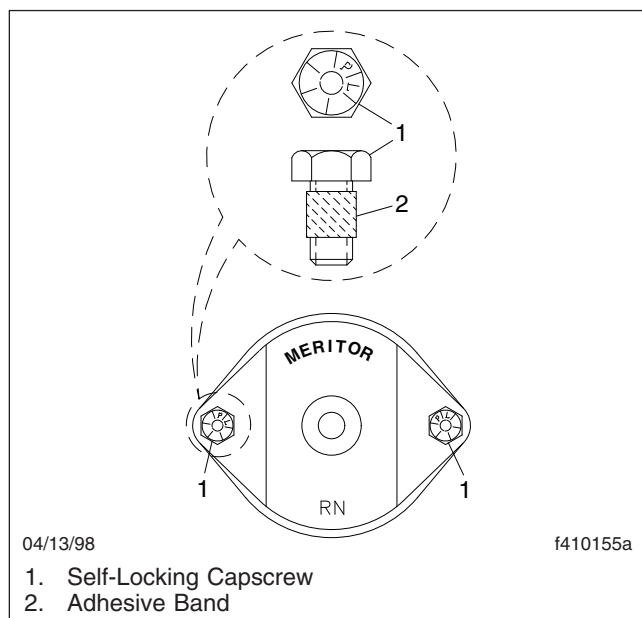

Fig. 3, Meritor U-Joint Fasteners for Full-Round Yokes
Full-Round Yokes with Bearing Cups (Fig. 3)	43 (58)